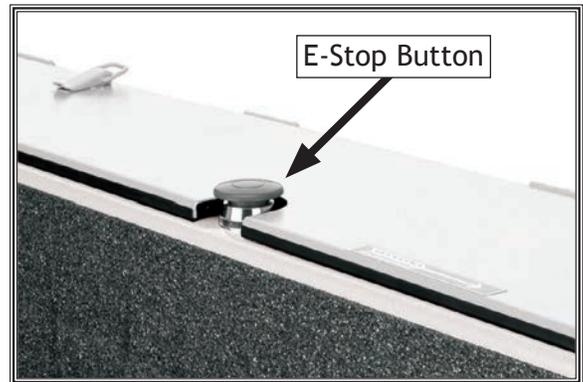

Figure 17. E-stop switch location.
5. Press E-stop button to stop machine (see **Figure 17**).